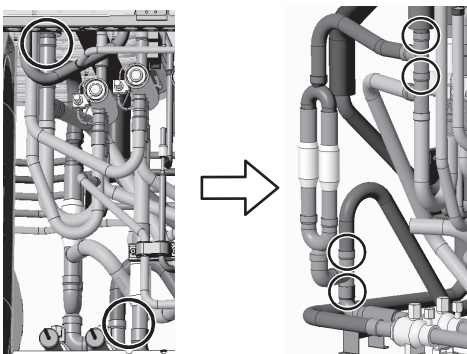

Figure 7
(6) Braze the replacement parts at four areas. (See Figure 7.)